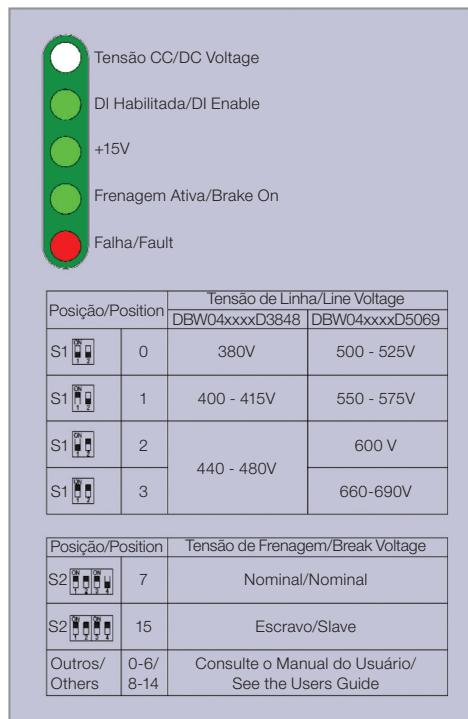

Figure 3.10: Information available in the front part of the braking module DBW04
Function of the indicator LEDs of the DBW04; see Figure 3.10 on page 23.
4. Power up the inverter. The LEDs "DC Voltage", "+15 V" and "DI enable" (see Figure 3.10 on page 23) must turn ON. The other LEDs must be OFF.